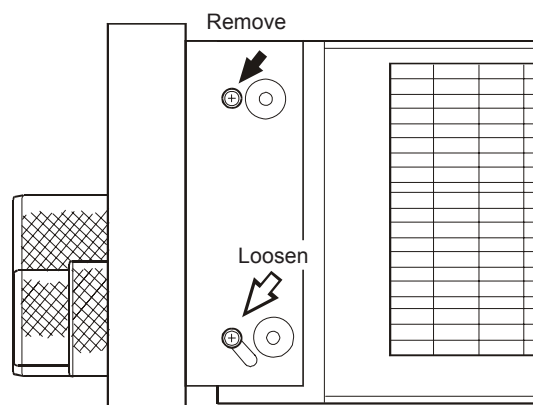

Figure 3
5. Referring to Figure 3, remove the screws (←) at the top left and top right that hold the front panel assembly in place, and loosen the two screws (⇔) at the bottom left and bottom right, so they can hold the front panel as it is folded forward.